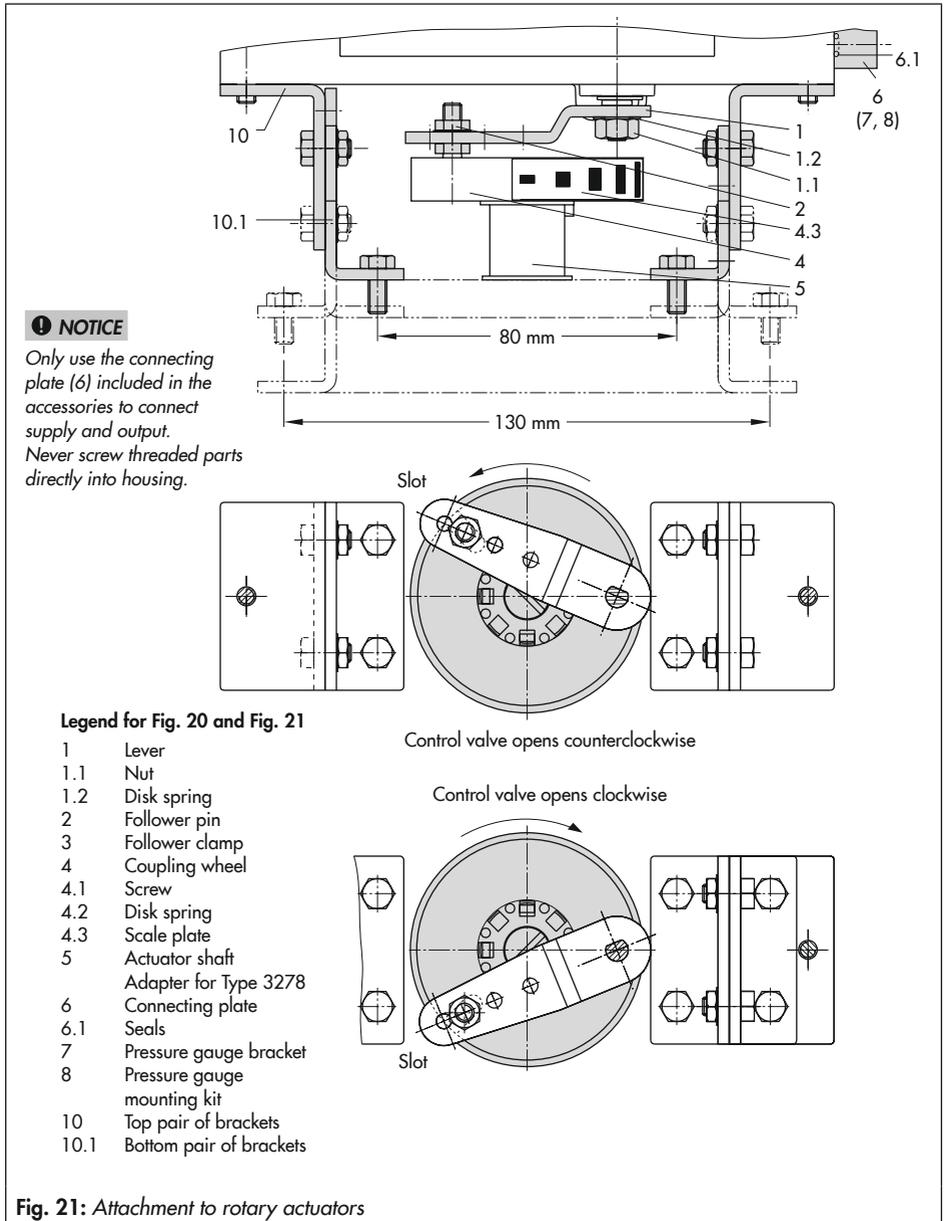

Fig. 21: Attachment to rotary actuators
→ Refer to Fig. 21
1. Place follower clamp (3) on the slotted actuator shaft or adapter (5).
2. Place coupling wheel (4) with flat side facing the actuator on the follower clamp (3). Refer to Fig. 21 to align slot so that it
3. Fasten the coupling wheel (4) and follower clamp (3) tightly onto the actuator shaft using screw (4.1) and disk spring (4.2).
4. Fasten the bottom pair of brackets (10.1) with the bends pointing either facing to the inside or to the outside (depending on the actuator size) onto the actuator housing. Position the top pair of brackets (10) and fasten.
5. Mount connecting plate (6) or pressure gauge bracket (7) with pressure gauges on the positioner, making sure the two seals are seated properly. Double-acting springless rotary actuators require the use of a reversing amplifier on the connection side of the positioner housing (see section 5.9).
6. Unscrew the standard follower pin (2) from the positioner's **M** lever (1). Use the metal follower pin (\varnothing 5 mm) included in the mounting kit and screw tight into the hole for pin position **90°**.
7. Place positioner on the top bracket (10) and fasten tight. Taking the actuator's direction of rotation into account, adjust lever (1) so that it engages in the slot of the coupling wheel (4) with its follower pin (Fig. 21). It must be guaranteed that the lever (1) is parallel to the long side of the positioner when the actuator is at half its angle of rotation.